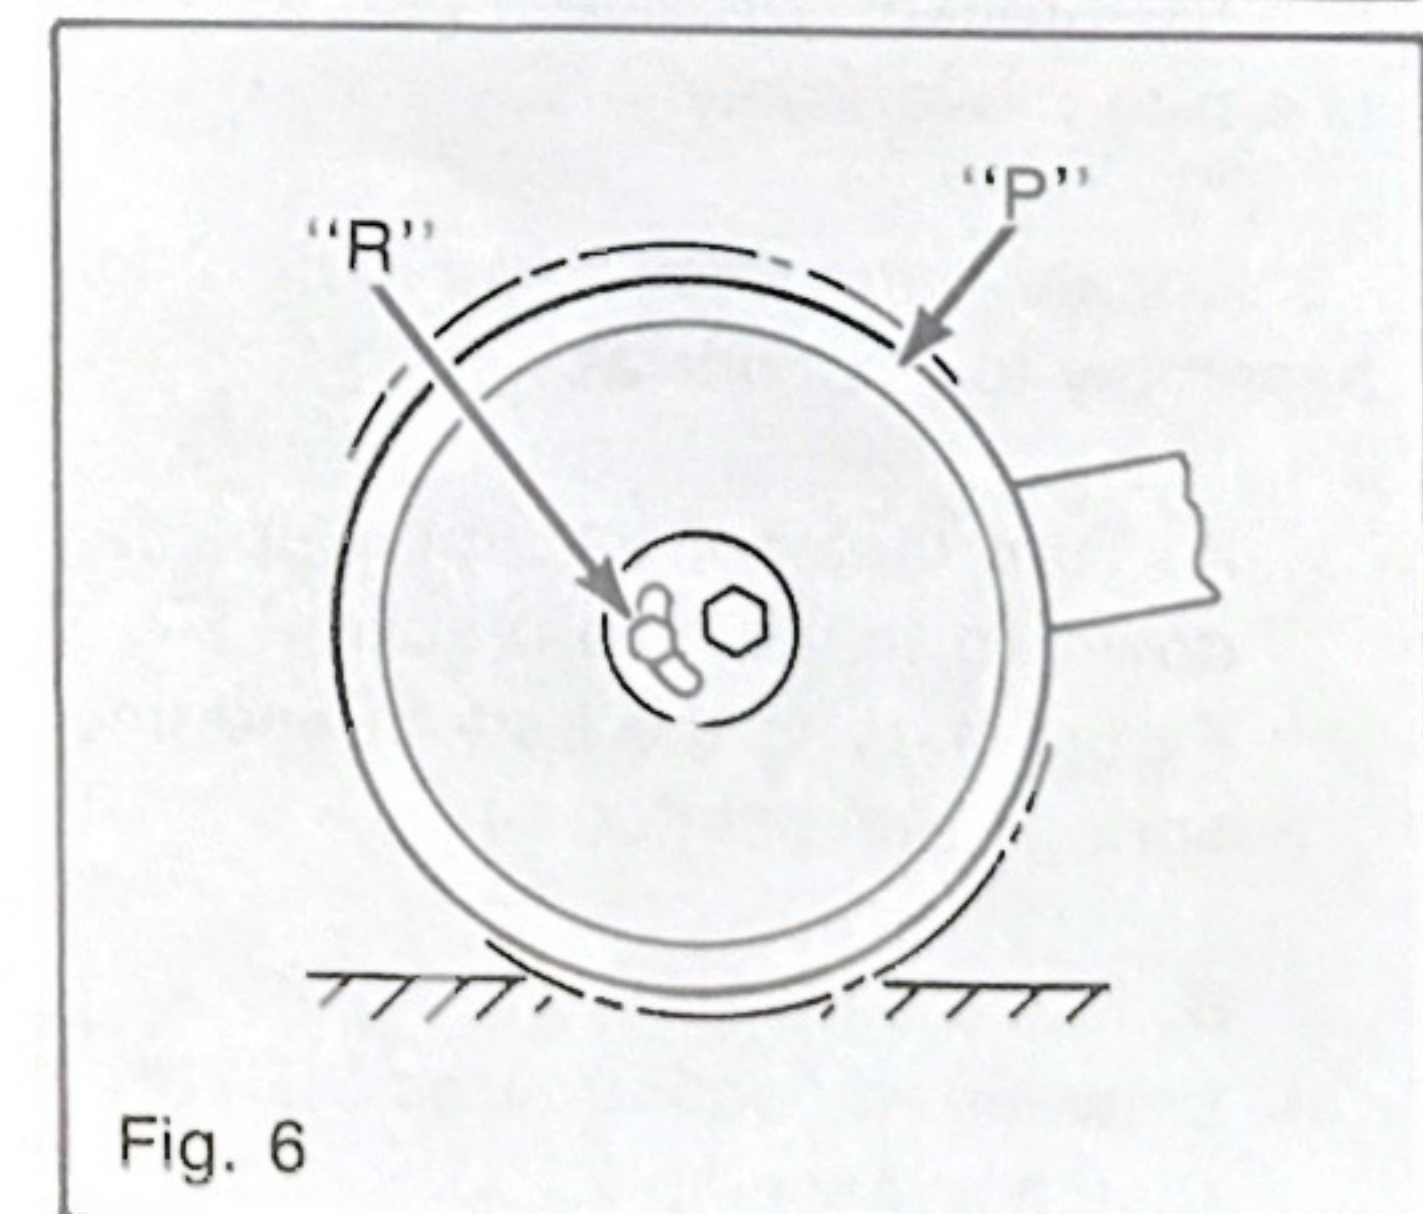

Fig. 6
3. To adjust lighter or heavier thatching; gauge wheel "P" Figure 6 can be relocated by loosening the 1/4-20 x 1/4" hex screw "R" and locknut. After loosening, rotate the wheel with slight pressure directed toward the wheel bearing as shown.